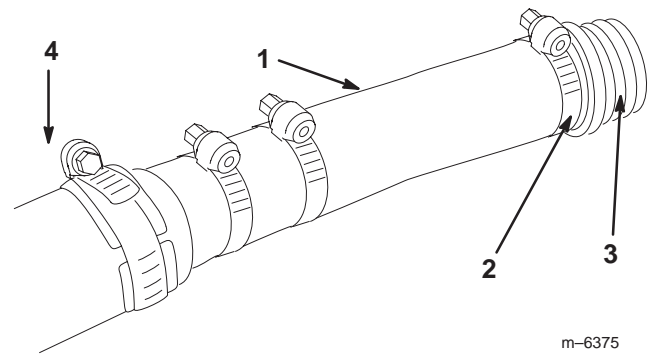

Figure 9
5. Slide a large ratcheting hose clamp (removed from the hose in step 2) over the hose and install the fitting all the way into the hose, securing it with the hose clamp (Fig. 9).